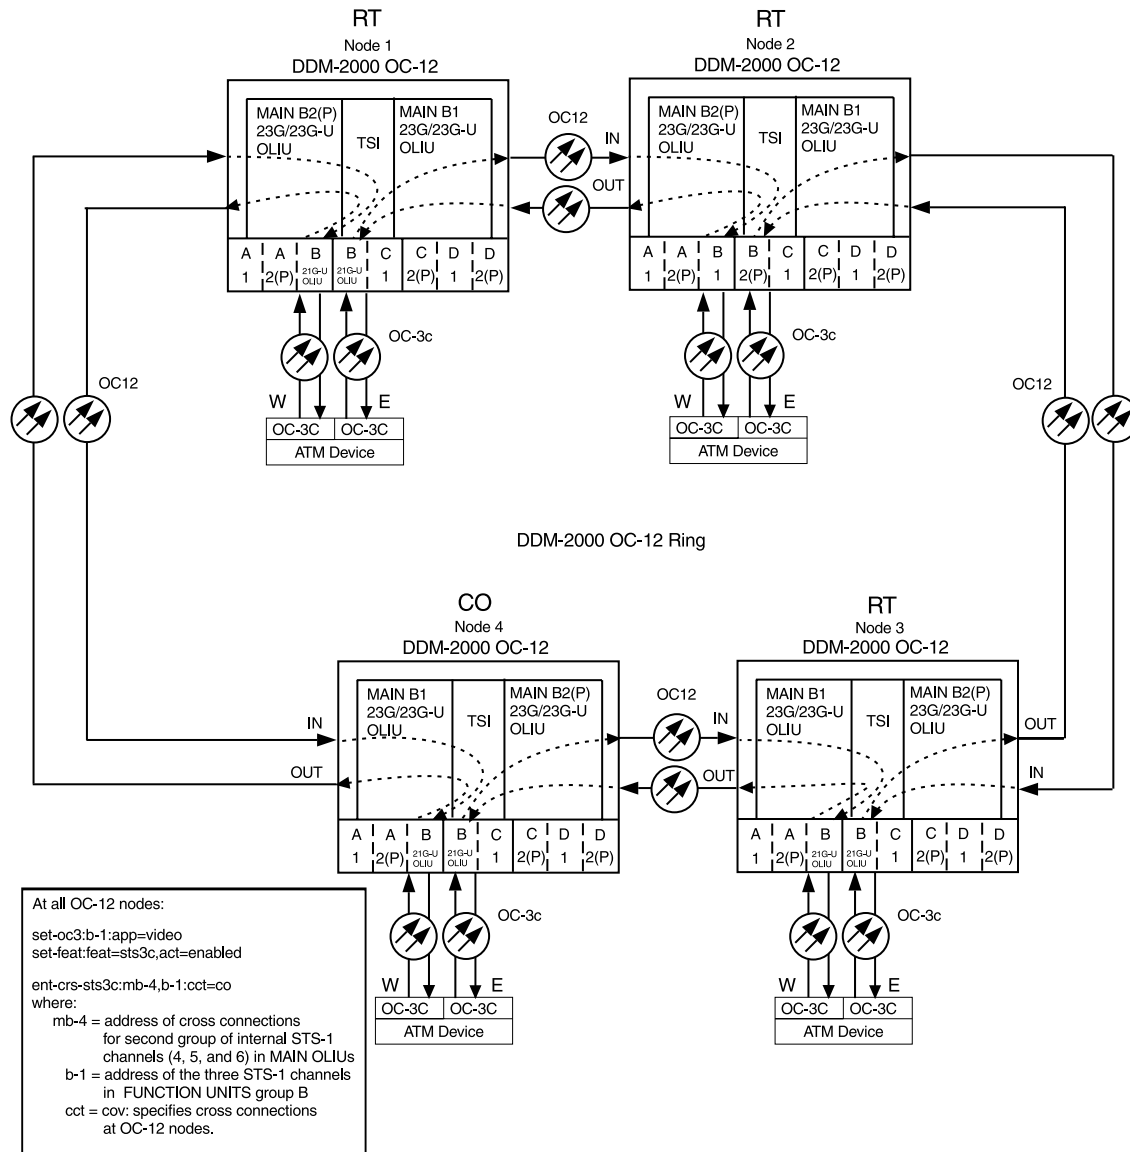

Figure 4. Example of Cross-connections for DDM-2000 OC-12 ATM Virtual Ring
9. Use the **ent-crs-sts3c:address:cct=cov** command to make all the ATM terminating cross-connections (For example at Node 4 in Figure 4, use the **ent-crs-sts3c:mb-4,b-1:cct=cov** command to make cross-connections.)